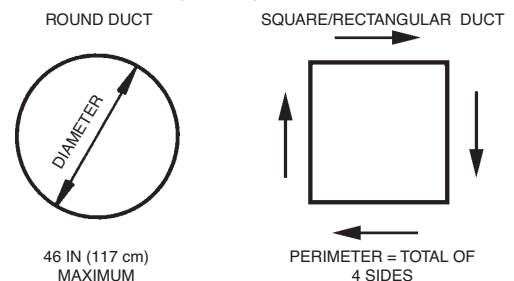

FIGURE 4
1. The maximum duct perimeter is 12 ft (3.7 m). See Figure 4. **Note:** Longest side of a square or rectangular duct cannot exceed 36 in. (91 cm).